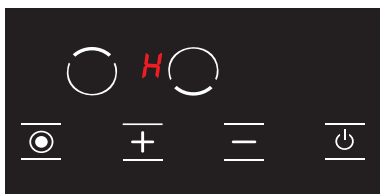

Figure 23
- Unit switches to stand-by mode after these procedures. However, the **H** icon shall be displayed in case of a hot hob even if the unit switches to stand-by mode. (See Fig. 23)